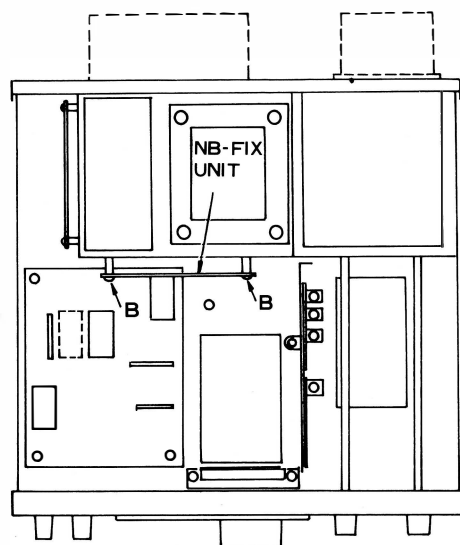

Figure 2
- (2) Refer to Fig. 2, and locate the NB-FIX circuit board. Remove its mounting screws, because this board is obstructing the removal of the IF unit.
- (3) Remove the 12-pin, 13-pin, and 15-pin plugs from their sockets on the IF unit. Remove the IF unit mounting screws, and remove the IF unit from the transceiver case.
- (5) Re-install the IF unit, being careful to connect the 12-pin, 13-pin, and 15-pin plugs in the correct sockets. Refer to Fig. 2 to be sure. Re-install the NB-FIX unit, and replace the top cover of the transceiver.
- (6) When the optional CW filter is installed, the CW-N position of the mode switch will activate this filter. In the CW-W position, the SSB 2.4 kHz filter will be in use. The WIDTH control is usable in all modes.